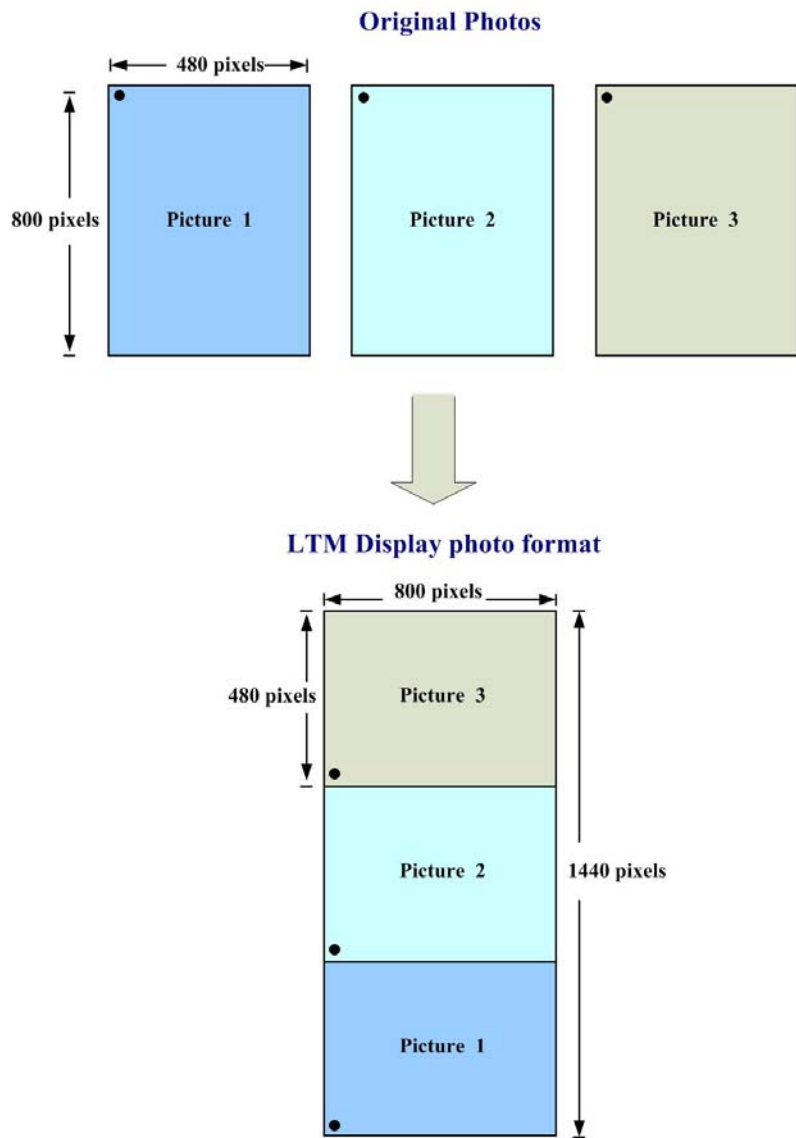

Figure 4.10 The photo format of the DE2_LTM_Ephoto/ DE1_LTM_Ephoto demonstration
2. Use the image processing software (such as Photoshop or Photoimpact) to rotate the images counterclockwise and then merge these photos into a new photo image. The new photo's image resolution should be 1440(high) x 800 (width), as shown in Figure 4.10